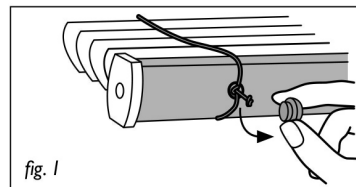

fig. 1
6.3 Lay blind on a flat surface and remove the caps on the bottom weight bar. The caps cover the lift cords [fig. 1].